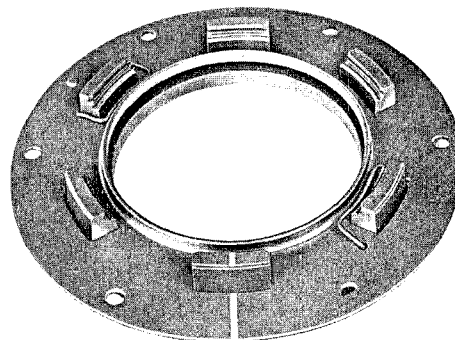

Fig. 256
4. Mark counter plate and pressure plate since these parts have been balanced as a unit (Fig. 256).